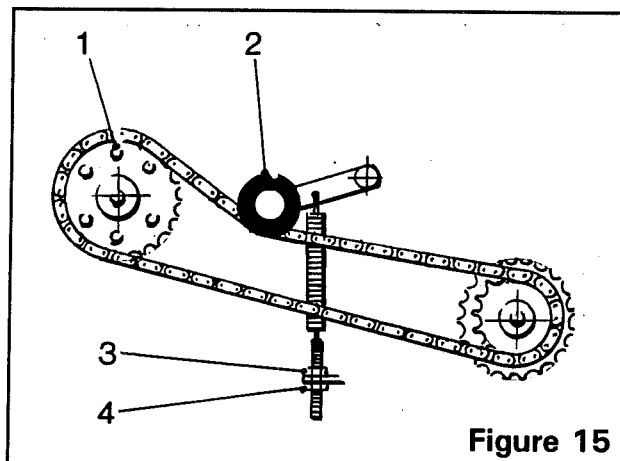

Figure 15
The feed web is chain driven via a slip clutch, which is fitted to prevent damage should any blockage occur. The amount of torque required to start the clutch slipping can be varied by turning the six adjusting nuts (item 1, figure 15). The clutch should be set to just drive without slipping under normal conditions. **Over-tightening of the adjusting nuts will render the clutch ineffective.** Care should be exercised to ensure that all six nuts are adjusted equally. This is easily achieved by turning each nut one flat at a time. The feed web drive is taken from the digger web drive shaft via two sprockets and a drive chain. The chain is tensioned by a roller (item 2, figure 15). To tension the chain, loosen the locking nut (item 3, figure 15) and turn the adjusting nut (item 4, figure 15). When the correct tension is achieved, retighten the nuts